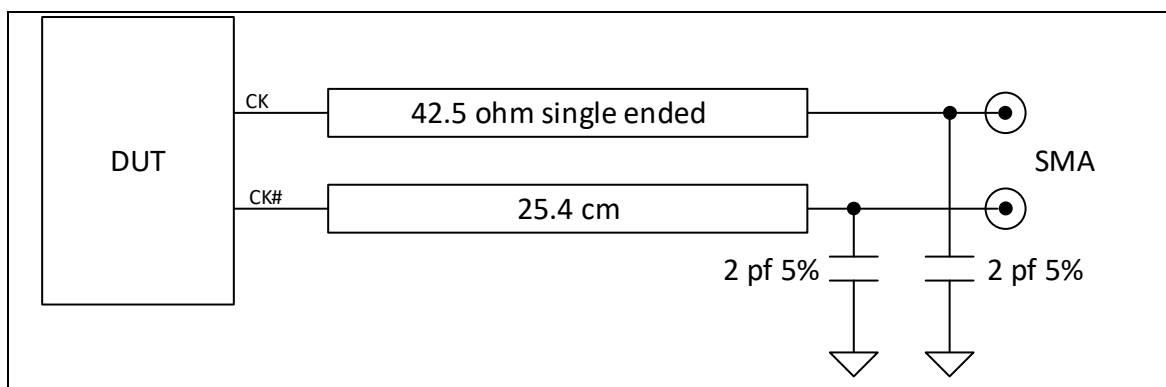

Figure 19. AC Test Load as per DB2000Q Specification
1. Measured into AC test load as per Figure 19.
1. Measured into Figure 19 AC test load.